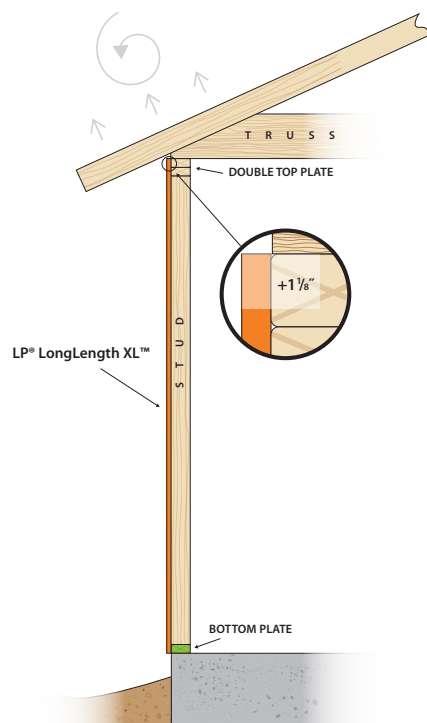
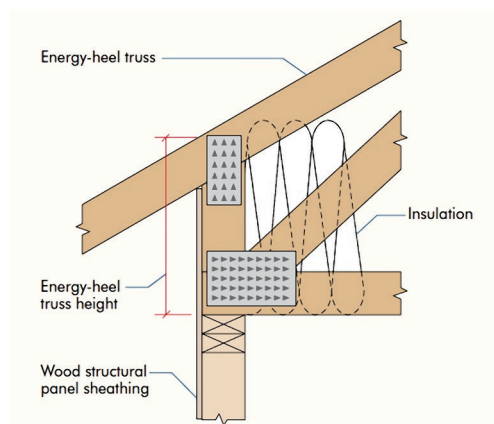

Figure 2: Overlap Top and Bottom Plates
Figure 3: Overlap Energy-Heel Trusses
- For one-story construction, panels shall be attached to the bottom sill plate and top member of the double top plate (see Figure 2). Where an energy-heel truss is used, the panel shall butt to the bottom of the top cord of the truss (see Figure 3).